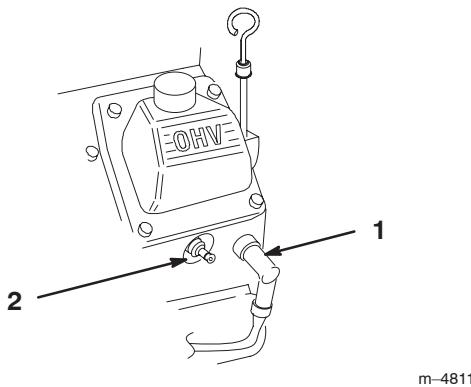

Figure 48
- Pull the wire(s) off the spark plug(s) (Fig. 48). Now clean around the spark plug(s) to prevent dirt from falling into the engine and potentially causing damage.
3. Push the wire(s) onto the spark plug(s) (Fig. 48).